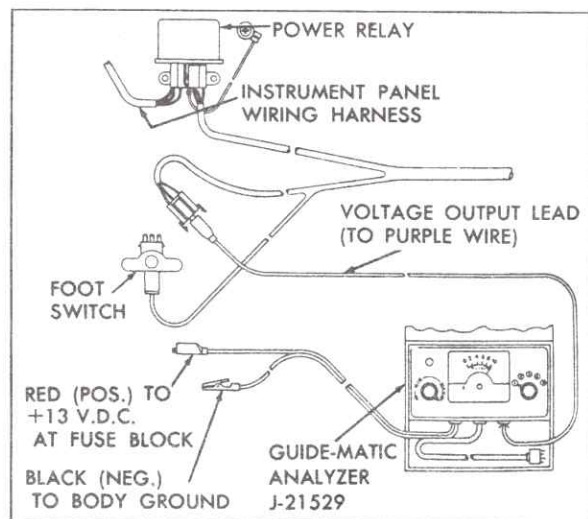

Fig. 15-33 Power Relay Check
- g. Check for defective power relay. To check, connect analyzer, J-21529, as shown in Fig. 15-33. Lights should switch to lower beam with voltage control knob at maximum clockwise position and function selector switch in position #1. If not, replace power relay.